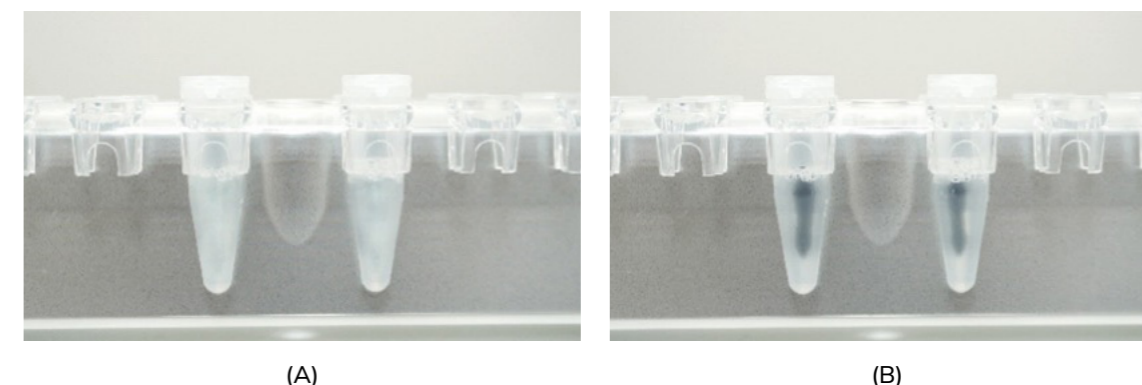

Fig. 7.1 Magnetic beads washing process: before supernatant removal: (A) After vortex (Light blue-black), (B) Ready for supernatant removal (Step 7-3)
Step 10: Add 100 μ L of Wash 4 (J) into the tubes and sonicate for 10 seconds in an ultrasonic water bath.
Please ensure the solution is homogenous and exhibits a uniform blue-black color as shown in Fig 7.1 (A).